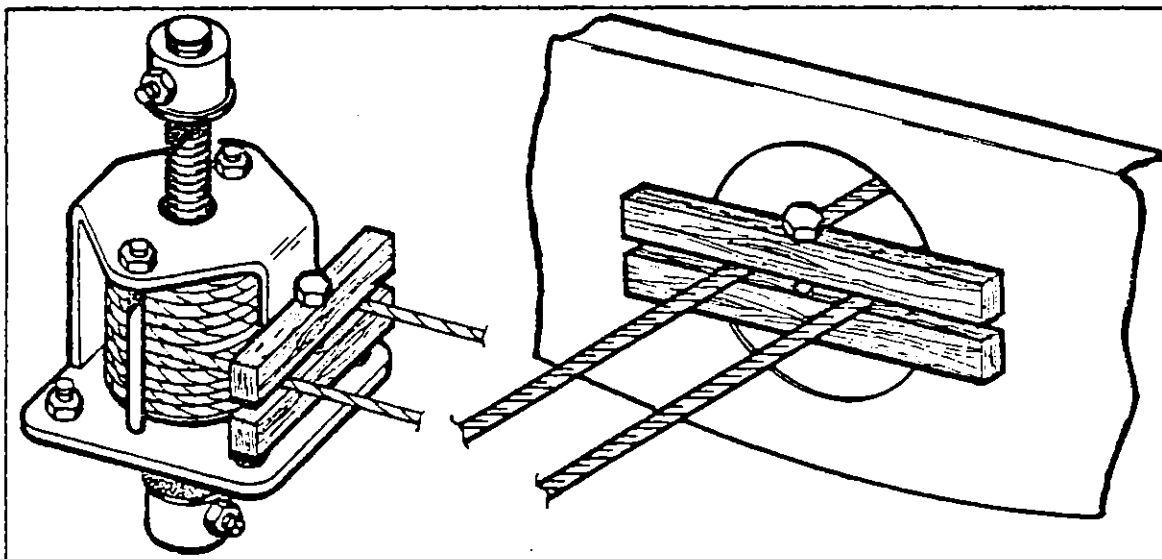

Figure 5-7. Methods of Blocking Trim Cables
- a. Remove the trim crank handle (25) from the overhead light panel by pressing upward on the light panel near the crank stem (27) and removing the clip from the stem.
- d. Trim cables (2) may be blocked to prevent the unwrapping of cables from the trim drum by removing the lower tail cone fairing and blocking the cables at the trim drum as shown in Figure 5-7.
- f. To facilitate withdrawal of cable through the tube guides (8) within the cockpit headliner, the following procedure may be used:
d. Block the aft cables at trim screw assembly to prevent the unwrapping of the cable from the drum. The cables may be blocked as shown in Figure 5-7.
g. Disconnect the trim tab control screw assembly from the tab control bellcrank assembly (34) by removing the cotter pin, castellated nut, washers and bolt from the bellcrank at the upper end of the control screw station 265.6.
i. Remove the control cable drum housing (10), trim drum (16), and control screw (11) with stops by removing cotter pins, castellated nuts, and washers from both sides of the bracket support assembly.
j. Draw the trim drum, bracket drum and cables out of the fuselage from the rear. The support brackets may be pried apart slightly to allow passage of the drum housing with angle (15) and bolts installed.